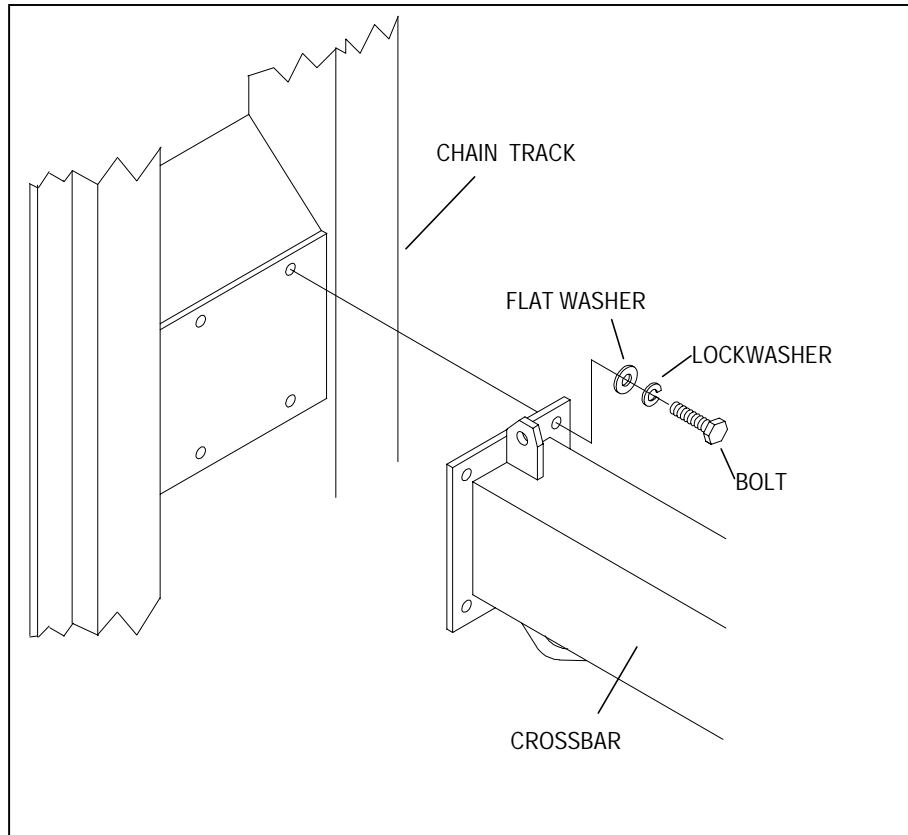

Figure 13. CROSSBAR ATTACHMENT
1. Hoist a crossbar into position. Use a drift pin to align the holes in the flanges with the threaded holes in the chain track (see Figure 13).